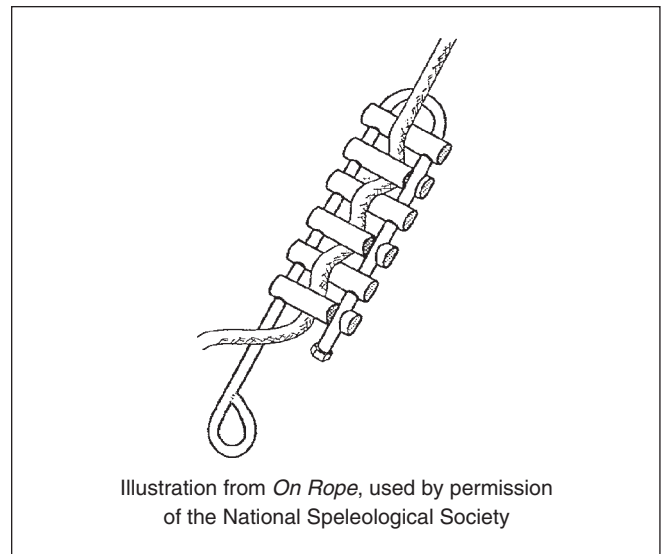

Figure 6k—A correctly rigged rappel rack.
- B. Engage the second bar and slide it up temporarily, pinching the rope between the top and second bar. Pass the rope back between the legs of the frame and engage the third bar. Continue this process until all bars are engaged (figure 6k).